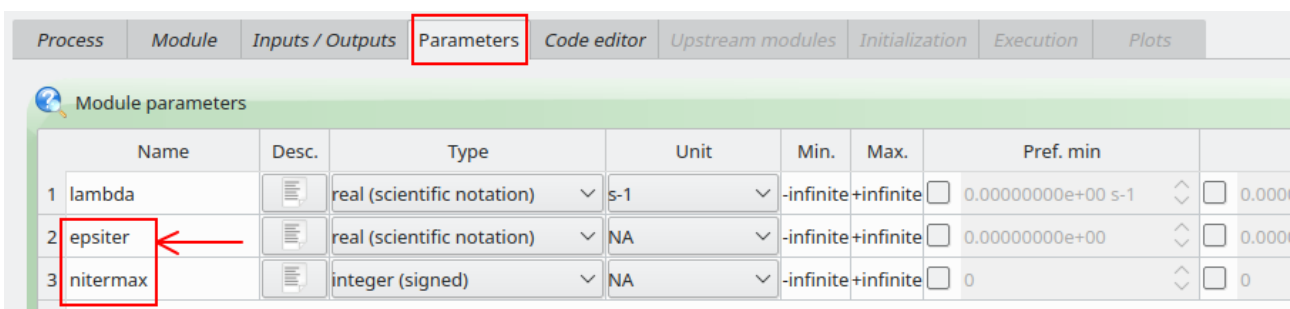

Figure 3: Definition of parameters *epsiter* and *nitermax* for *first_order_degradation* module (*Parameters* tab of *vsOil-modules* application)
It is the responsibility of the module developer to define and code in the compute section of the module (see below), the algorithm controlling the convergence of the iterations. So, the module should have a parameter defining the convergence criterion (parameter *epsiter* of module *first_order_degradation*, see figure 3).
Although a maximum number of iterations is available in *Global* sub-tab of *Initialization* tab in *vsOil-models* application (see figure 4, let's name it *iterateWithMaxIterations* for the rest of this documentation), this number being common to all modules composing a model, it is strongly recommended to have a module parameter defining a maximum number of iterations (parameter *nitermax* of module *first_order_degradation*, see figure 3): this offers the possibility
- If the value of *nitermax* (maximum number of iterations associated with module *first_order_degradation*; see figure 3 and second blue frame in figure 5) is greater than or equal to the value of *iterateWithMaxIterations* (maximum number of iterations common to all modules involved in a process of iterations between modules, see figure 4), then *iterateWithMaxIterations* will be the maximum number of possible iterations between modules *first_order_degradation* and *balance_batch_deg*; it means in this case that the value of *nitermax* is ignored.